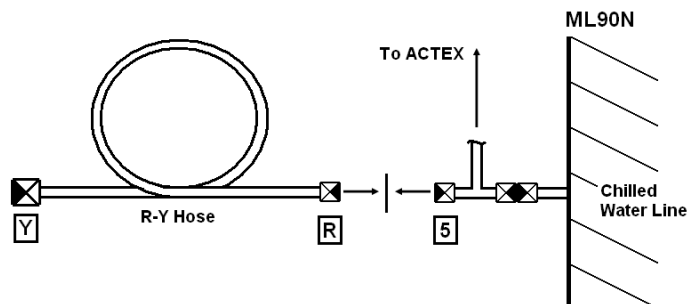

Figure 5-5.- R-Y Hose connection at ML90N.
2. Connect red end of R-Y Hose to free end of tee attached to Chilled Water Line QD (#5) at QD bracket (see fig 5-5)